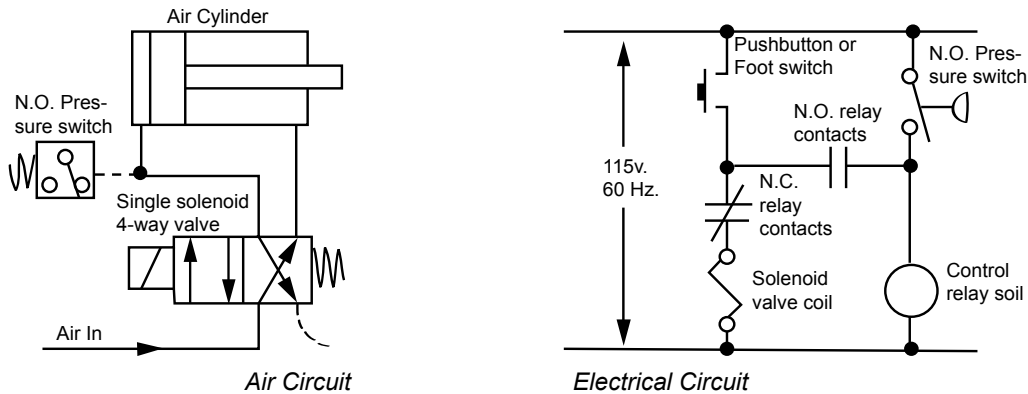

Figure 3. Solenoid valve circuit for compressed air - automatic retraction.
Figure 3. This air press cylinder is controlled with a foot switch or pushbutton that the operator actuates and holds during closure of the press. When air pressure behind the cylinder piston has built up to the pressure switch setting, closure of the pressure switch contacts energizes a control relay which then locks in electrically through its own normally open (NO) contacts and the pushbutton. A set of normally closed (NC) relay contacts breaks the valve solenoid circuit, allowing the valve spool to spring return to its normal position and the cylinder to retract.